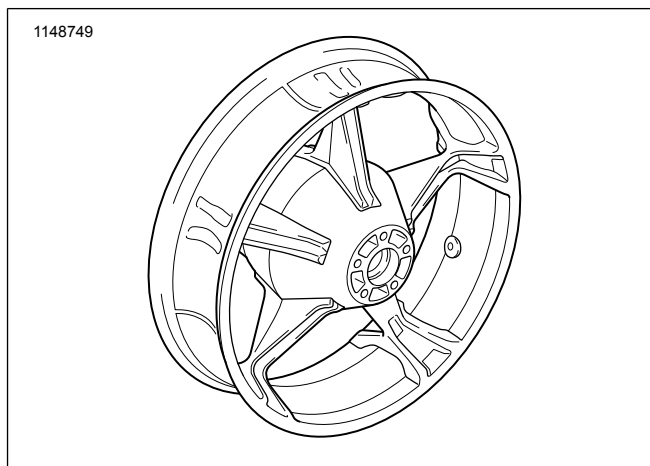

Figure 1. Service Parts: Aggressor Rear Wheels
See Figure 1 and Table 1.
2. See Figure 1. Install valve stem assembly (H) on wheel. Refer to the service manual.